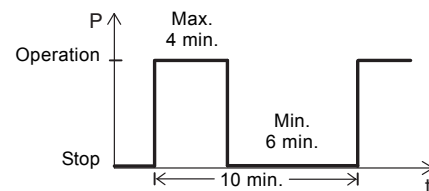

Fig. 18 Intermittent operation
- Intermittent operation S3 with maximum 20 starts per hour when the pump is submerged to the bottom of the cable plug. The pump must run for maximum 4 minutes and stop for min. 6 minutes. See fig. 18.